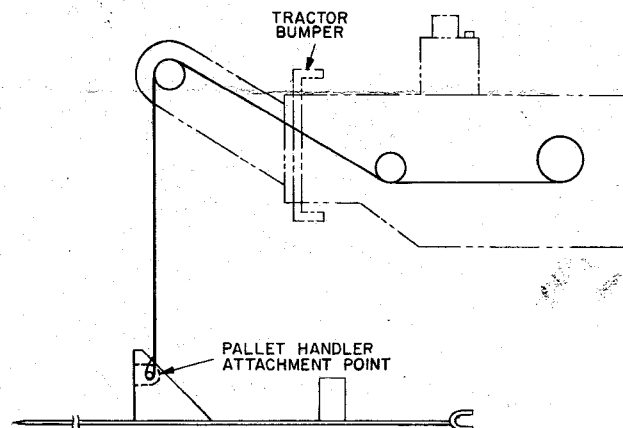

Figure 2
3. Thread the lift strap as indicated in Figure 2 and attach the strap's looped end to the lift clevis with the clevis pin.